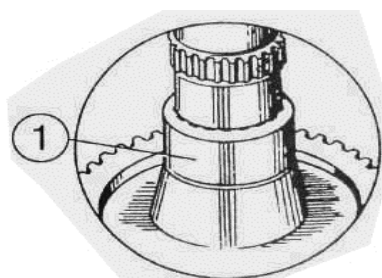

Figure 4.70
b) dismantle bushings 1 (Figure 4.70);